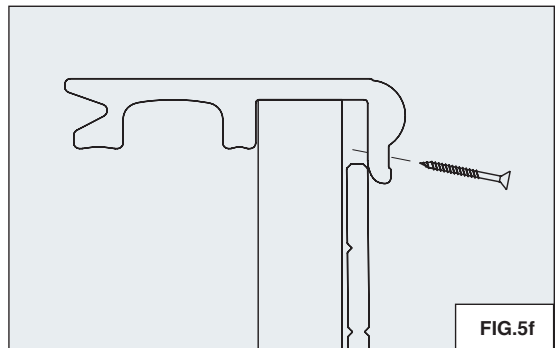

FIG.5f
- Pre-drill pilot holes every 24" into the lower lip of the bullnose. Using a rotary tool with a spiral bit, enlarge all pre-drilled holes into slots to allow for expansion and contraction, especially near the ends of the bullnose length. Pre-drill the pilot holes at a upwards angle to avoid screwing into the cladding (REFER TO FIG.5f). Drive #8 x 2" Deck screws into the bullnose lip, tightening until the head of the screw just contacts the bullnose lip. DO NOT OVER TIGHTEN. (REFER TO FIG.5f & 5g)